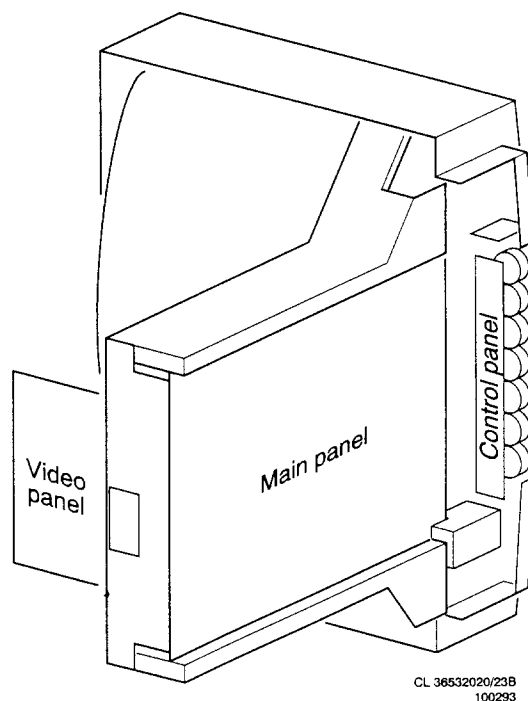

Fig. 4.3
- Fig. 4.3 shows the service position.